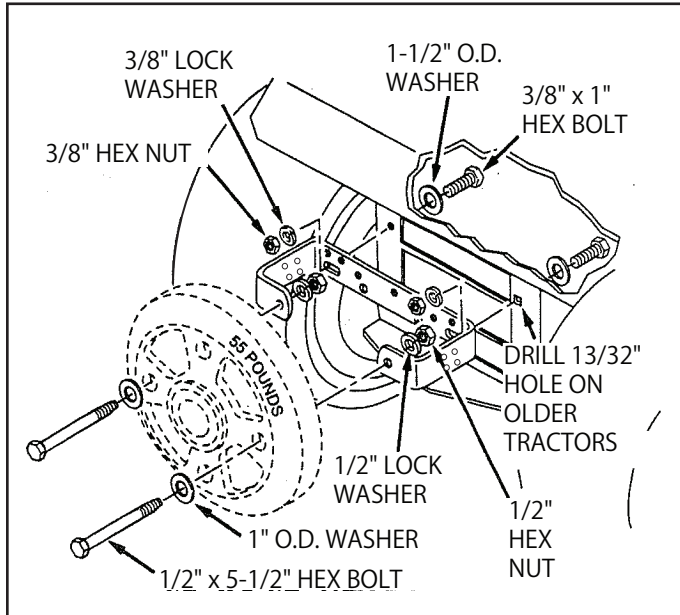

FIGURE 1
1. Assemble two 1.5" O.D. washers (7) onto two 3/8"-16 x 1" hex bolts (3). Insert bolts through drawbar and assemble weight bracket (1) onto bolts. Fasten securely with two 3/8" lock washers (9) and two 3/8"-16 hex nuts (11). See figure 1.
2. Assemble wheel weight to weight bracket (1) using two 1/2" x 5-1/2" hex bolts (14), 1" O.D. washers (5), 1/2" lock washers (8) and 1/2"-13 hex nuts (10). Tighten securely. See figure 1.